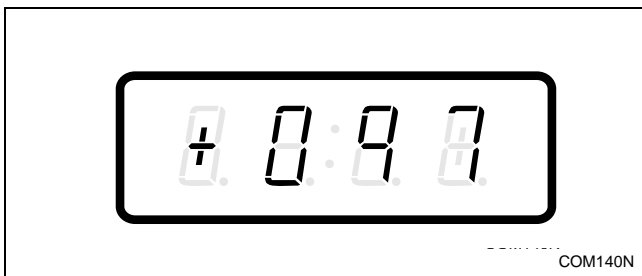

Figure 157
3. Press the DELICATES (+) or the COLD (-) keypad to scroll through the programmable options until “+097” appears in the VFD. Refer to *Figure 157*.